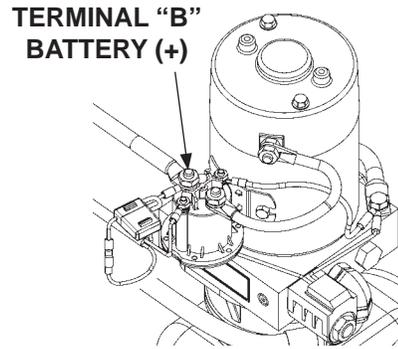

**FIG. 37-3**
2. Check the hydraulic cylinder. With the platform on the ground, remove the breather plug or vent line from the vent/down port of the cylinder (**FIG. 37-3**). Raise the platform even with the bed. Allow pump motor to run two seconds more while you watch for hydraulic fluid at the vent/down port. A few drops of hydraulic fluid escaping the vent/down port is normal; however, if it streams from the vent/down port, piston seals are worn. Replace seals.
3. Check and clean flow control valve in high pressure hydraulic line attached to cylinder. When installing flow control valve, make sure arrow on valve is oriented as shown in **FIG. 37-3**.